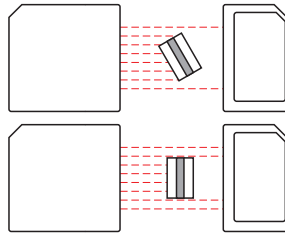

Fig. 3 Measurement inaccuracy at tilted targets
- ➡ Pay attention on the alignment of target for avoiding measurement inaccuracies, see Fig. 3